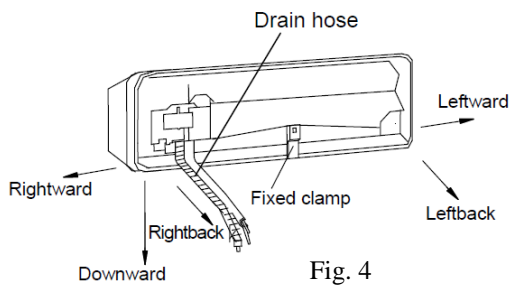

Fig. 4
- Connecting right back tube (similar to right lower tube) (Optional, Refer to Fig.4).
Left chart is available for the position of drain hose, refer to Fig. 4.